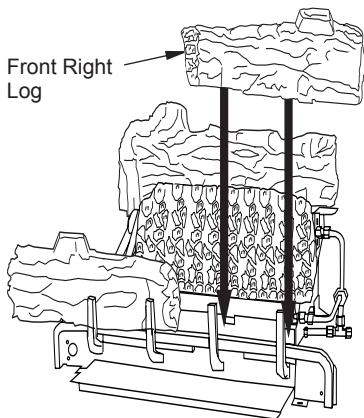

Figure 31 - Installing Front Right Log
4. Position front right log against right side of grate prongs (see Figure 31).